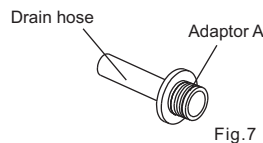

Fig. 7
- Install the drain hose onto the adaptor A (See Fig. 7, placed in the bucket).